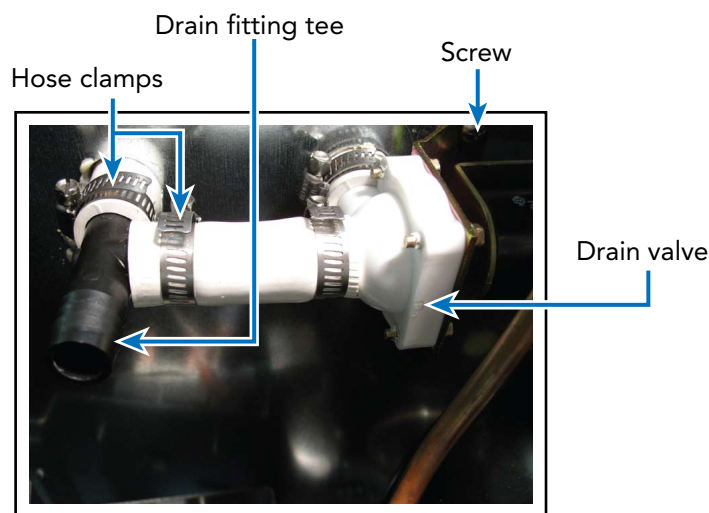

Figure 12
5. Loosen the hose clamps on each side of the drain valve (see **Figure 12**).
6. Remove the two screws securing the drain valve (see **Figure 12**).